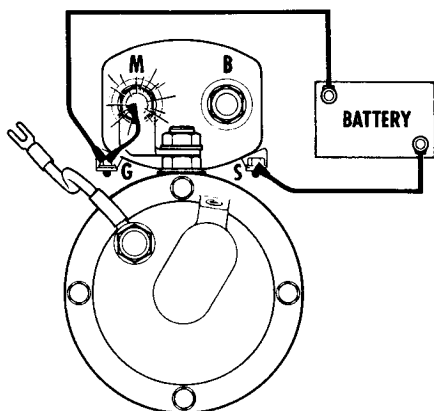
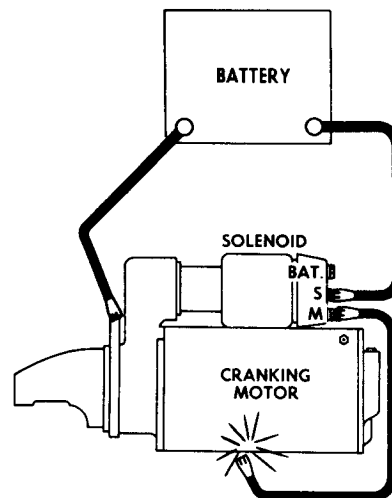

Figure 23—Circuit for checking pinion clearance. (Types shown in Figures 1, 2 and 3.)
Figure 24—Circuit for checking pinion clearance. (Types shown in Figures 4 and 5.)
1. Make connections as shown in Figure 23 or Figure 24.
2. **Momentarily** flash a jumper lead shown in blue color in Figure 23 or Figure 24. The drive will now shift into cranking position and remain so until the battery is disconnected.